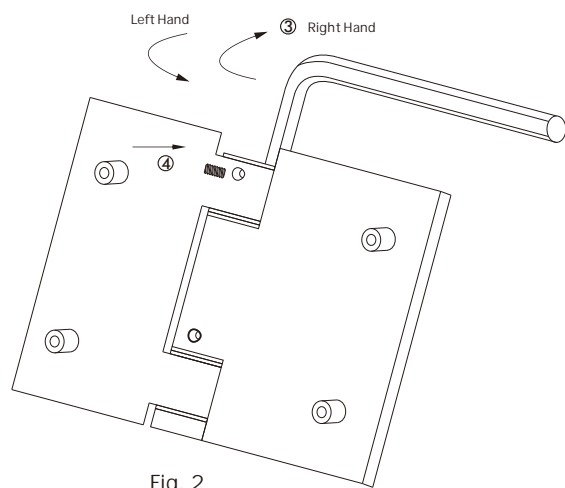

Fig. 2
- 3) Insert into the top cavity of the hinge the supplied large Allen key (Fig.2 step3). Gently push down and turn clockwise (right hand) or anti-clockwise (left hand) to strengthen the closing force either past the pencil line (to strengthen) or before (to weaken).
- 4) This next task is easier with a second person. Look inside the grub screw hole and visually line up the grub screw hole with the positioning hole of the internal mechanism of the hinge (Fig.2 step4). These holes can be lined up by moving the allen key forward or backward. When lined up, hold the Allen key in place and insert the grub screw. Note: The grub screw must be flat with the outer surface of the hinge body before it has located properly. Repeat this process for the bottom hinge. Note that it is better to adjust both hinges a little bit than just the top hinge a lot as it will reduce the slamming affect.